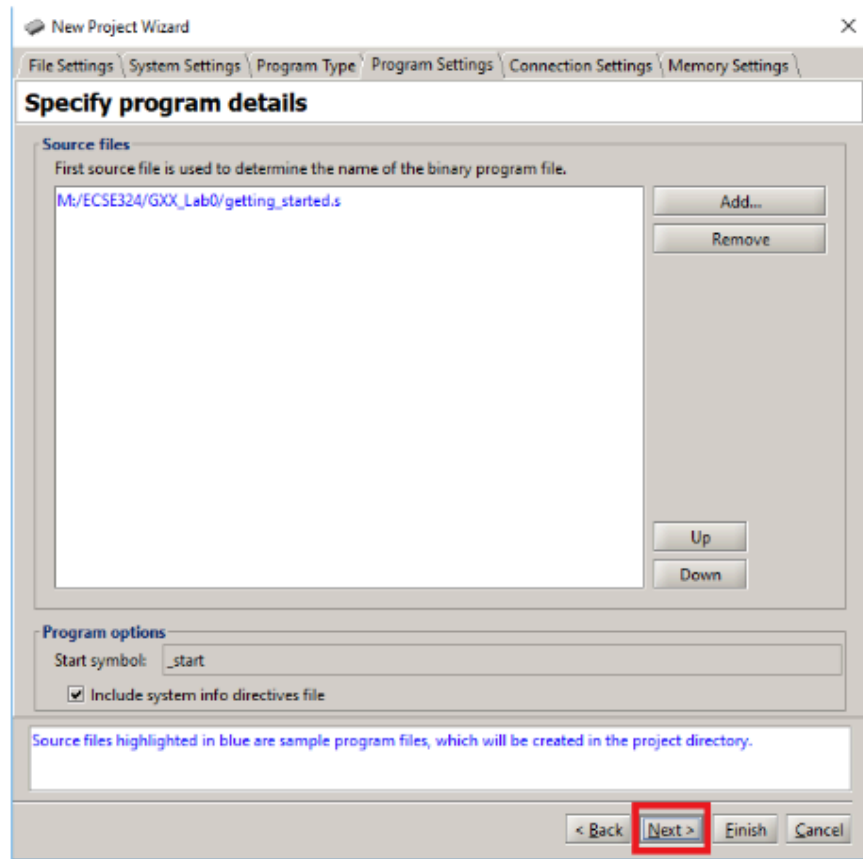

Figure 16: Running the demo program - Step 5
5. In the next window “Specify program details”, simply click “Next”, Fig. 16.